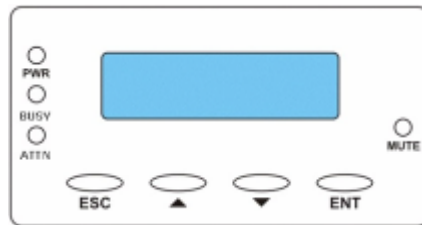

Figure 4-1: LCD Keypad Panel
The LCD keypad as shown in **Figure 4-1** consists of five (5) function keys, three (3) LEDs, and a 16-character x 2-rows LCD screen that provides access to firmware-embedded utility. Press the **ENT** button for two (2) seconds on the initial screen to enter the main menu. Press the **ESC** button to clear the current event.